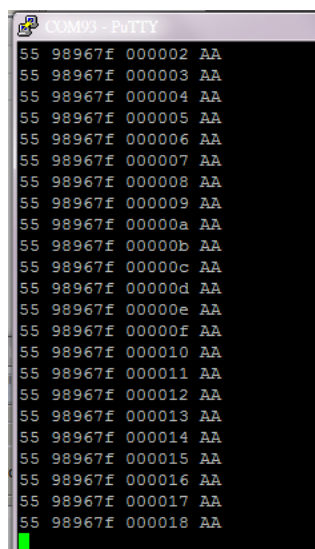

Figure 4-7 Terminal display on PuTTY
11. The count of 1 pps by 10MHz can be uploaded to the host PC through PuTTY. The COM port needs to set to 115200 baud rate. **Figure 4-7** shows the count of 1 pps by 10MHz in the terminal window of PuTTY. The format 55 xxxxxx yyyyyy AA can be broken into 55 AA as the identification code for the beginning and the end; xxxxxx is the count value of 10MHz for 1 pps in hexadecimal ; yyyyyy represents the current time in second in hexadecimal.